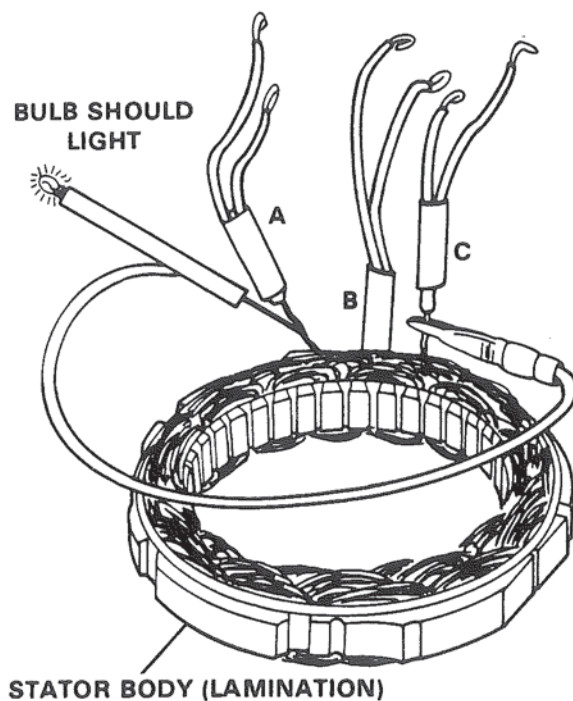

Figure 9. Stator Grounded or Open Winding Test.
- C. Position continuity tester or ohmmeter test probes. Figure 9.
- D. Touch test probes between leads A, B, or C and stator body (lamination) bulb should not light and ohmmeter reading should be infinite. Figure 9. If bulb lights or ohmmeter shows "0" ohms, stator is grounded and must be replaced.